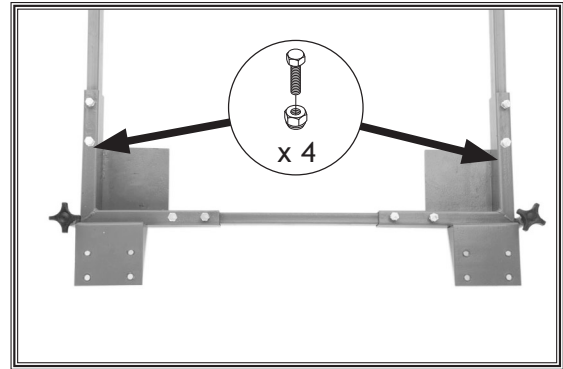

Figure 15. Rails fastened to brackets. (Machine pulled back from assembly for clarity.)
- Slide the other pair of rails that are of identical size into the ends of the corner brackets from **Step 6**, then fasten with (4) M8-1.25 x 16 hex bolts and 8mm lock nuts, as shown in **Figure 15**.